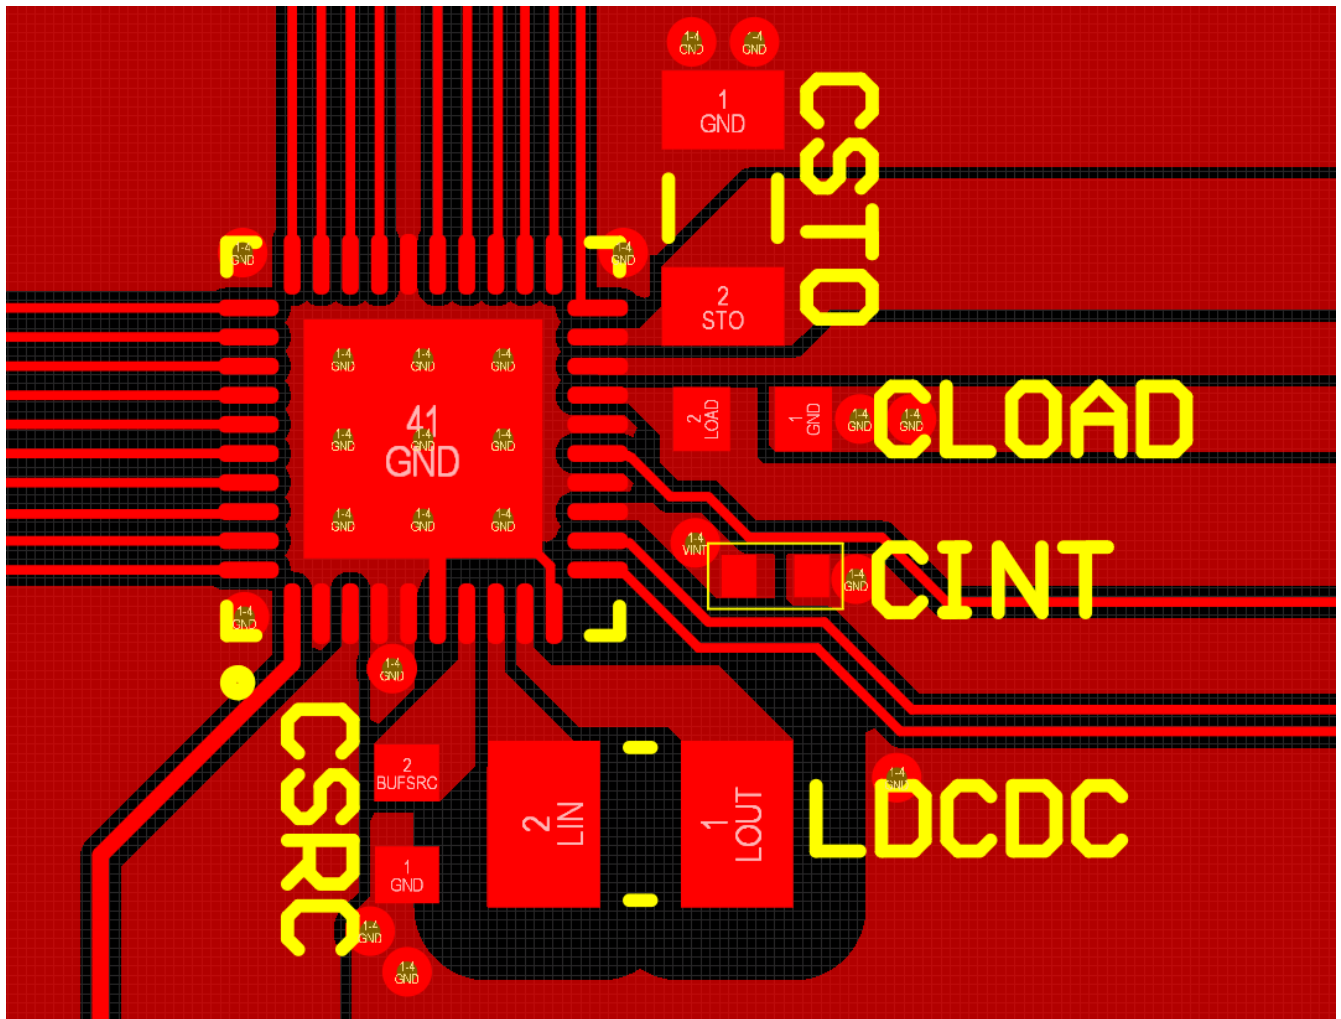

Figure 18: Layout Example for the AEM00330 and its Passive Components
- The switching nodes (LIN and LOUT) must be kept as short as possible, with minimal track resistance and minimal track capacitance. Low resistance is obtained by keeping track length as short as possible and track width as large as possible between L_{DCDC} and the AEM00330 pins. Minimal capacitance is obtained by keeping distance between LIN/LOUT and other signals. We recommend removing the ground plane, the power plane and the bottom layer ground pour under L_{DCDC} footprint, as well as adding distance between LIN/LOUT and the top ground pour, as shown on Figure 18.